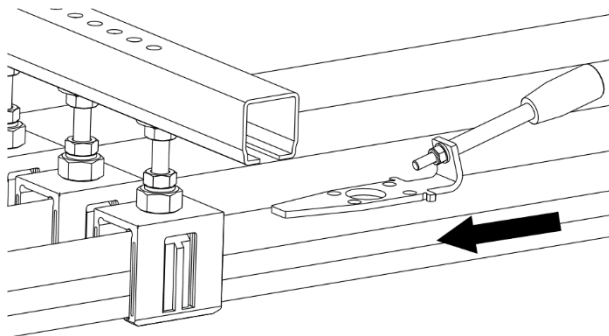

Fig. 3: Slide Tool 1 between the conductor rail and the hanger clamp
- Slide Tool 1 up to the stopper between the conductor rail and hanger clamp (see Fig. 3).